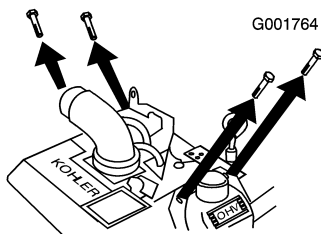

Figure 17
2. Remove the top 2 valve cover mounting bolts from both valve covers (Figure 17).